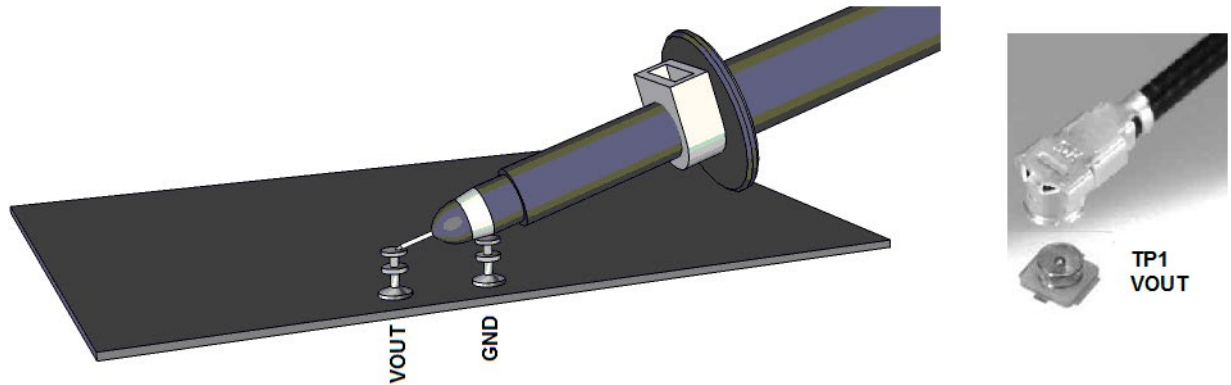

Figure 2. Technique for Measuring Output Ripple and Step Response
4. Connect an oscilloscope voltage probe as shown in Figure 2 in parallel with VM2. Set Channel to AC-coupled, voltage scale to 20mV and time base to 100ns. Observe the V_{OUT} ripple voltage.
NOTE: Measure the output voltage ripple by touching the probe tip directly across the output turrets or to TP1 as shown in Figure 2. TP1 is designed for a 50 Ω coax cable to reduce any high frequency noise that might couple into the oscilloscope probes.